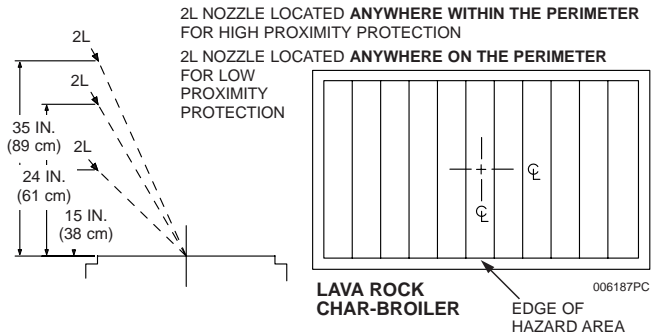

Figure 3-12.
The 2L nozzle, Part No. 551027, is used for high proximity lava rock char-broiler protection. This nozzle is a two (2) flow nozzle. The nozzle must be located **anywhere within the perimeter** of the hazard area, 24 in. to 35 in. (61 to 89 cm) above the cooking surface of the appliance and aimed at the center of the broiler surface. See **Figure 3-12**.
The 2L nozzle, Part No. 551027, is used for low proximity lava rock char-broiler protection. This nozzle is a two (2) flow nozzle. The nozzle must be located **anywhere on the perimeter** of the hazard surface, 15 in. to 24 in. (38 to 61 cm) above the cooking surface of the appliance and aimed at the center of the broiler surface. See **Figure 3-12**.